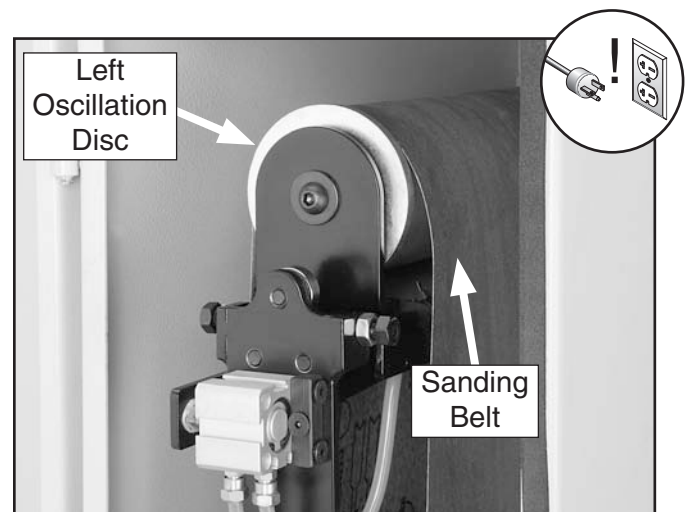

Figure 21. Correct installation position of sanding belt.
6. Slide the new sanding belt onto the upper sanding roller and sanding drum, then position it on the upper sanding roller so that it is just past the left oscillation disc, as shown in **Figure 21**.